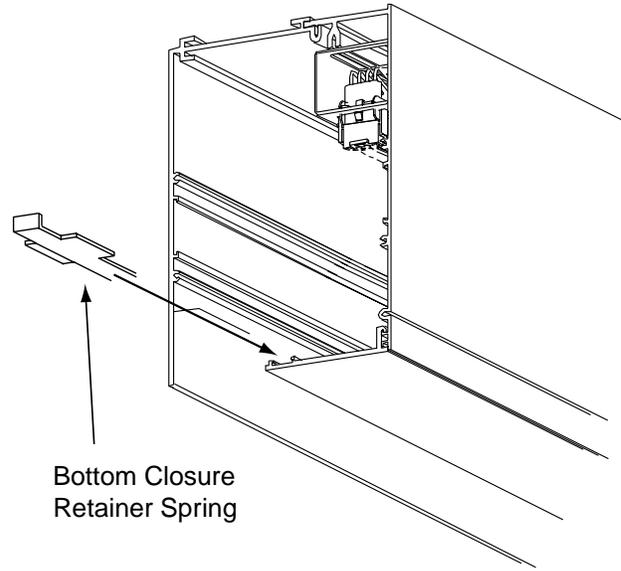

Figure 15
- ④ Slide retainer springs into slots on L.H. and R.H. bottom closure end brackets (Fig. 15).